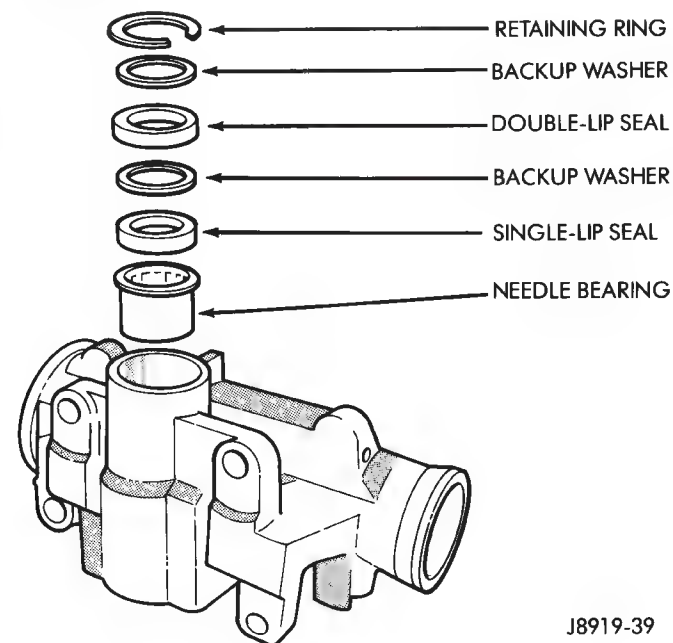

Fig. 36 Pitman Shaft Seals
- (1) Remove pitman arm from gear. Refer to Pitman Arm Removal in Steering Linkage.
- (2) Clean exposed end of pitman shaft and housing. Use a wire brush to clean the shaft splines.
- (3) Remove retaining ring with snap ring pliers (Fig. 36).